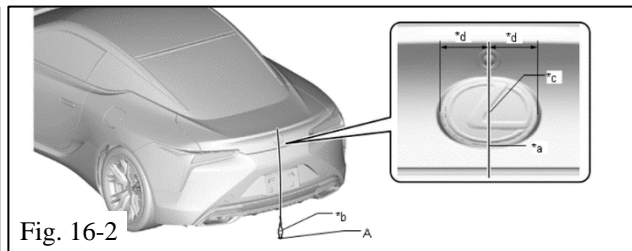

Fig. 16-2
- (1) Hang a weight with a pointed tip from the center of the rear emblem, and mark the rear center point of the vehicle (point A) on the ground (Fig. 16-2).